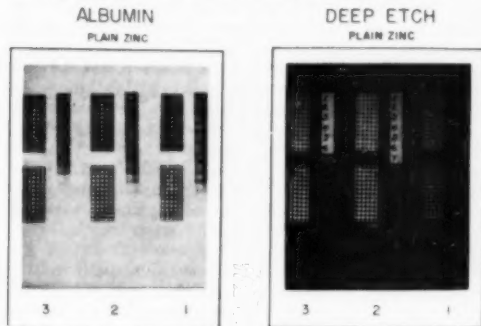

Figure 8. LTF Sensitivity Guide on albumin and deep-etch plates.
The use of the LTF Sensitivity Guide on an albumin and deep-etch plate is illustrated in Figure 8. Also illustrated are the effects of continuing reaction on apparent sensitivity and of sensitivity on halftones having fringes with different gradients. The halftone images on the upper parts of the plates were made from an enlarged 50 per cent halftone negative having a wide fringe around the dots. The images on the bottom half of the plates were made from a similar enlarged halftone with a narrow fringe. The areas marked (1) were exposed one hour after coating; (2) were exposed two hours later; and (3) five hours after coating. The relative humidity was 45 per cent. Note the shifting in the critical step of the LTF Sensitivity Guide due to continuing reaction. On the albumin plate the step shifts from 6 to 7 indicating an increase in light action equivalent to an increase in sensitivity of over 30 per cent. On the deep-etch plate it also shifts from 6 to 7 indicating a similar increase. The effect of this increase on the two types of halftones is obvious. The halftones with the wide fringe show a marked difference in dot size as a result of the continuing reaction. The difference in dot size of the halftone with the narrow fringe is small. It would be significant for a greater change such as that produced by higher relative humidity and longer continuing reaction. Appreciable variation of tone values in platemaking will be encountered unless halftones with consistently narrow fringes are used.